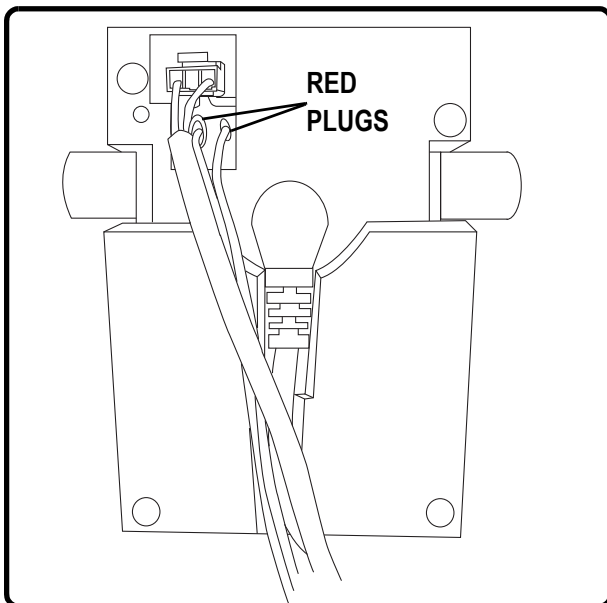

Figure 6.2 Safety Switch Plugs
2. If the motors are out of sync, disconnect one of the two red safety switch plugs from the motor control box (Fig. 6.2).
4. Reconnect the red safety switch plug into the motor control box (Fig. 6.2).